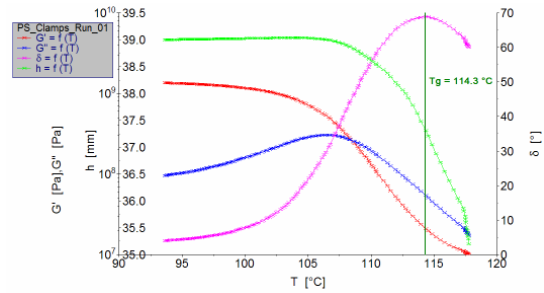

Figure 5. Tg of a shrinking PS sample
Figure 5 shows the measurement of a polystyrene (PS) sample under difficult conditions. The sample had also been prepared by mould injection but not given